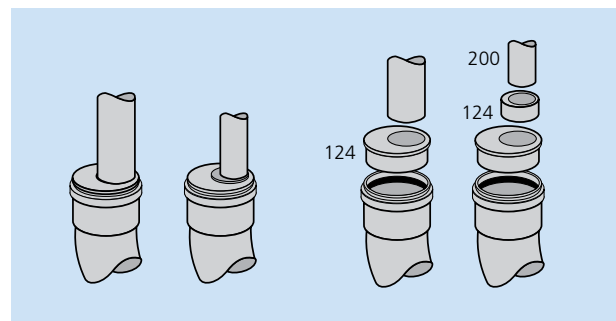

Fig. 26
- **110mm Underground Pipe to 82mm Soil Pipe** (Fig. 26)